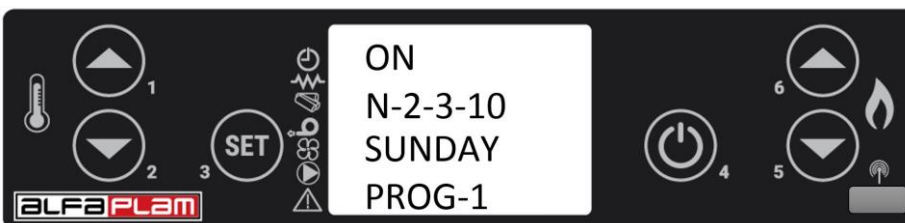

Figure 60
By pressing the button SET and the button 1 we activate (ON) or deactivate (OFF) the program 1 for the corresponding day in the week starting from Monday, up to Sunday as shown in figures 60 and 61. The transition from day to day is performed by pressing the button SET.